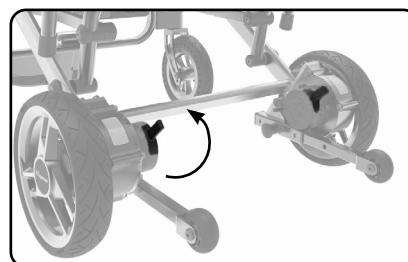

Fig. 11.2
- To disengage, push the levers towards the front of the chair (Fig. 11.2).